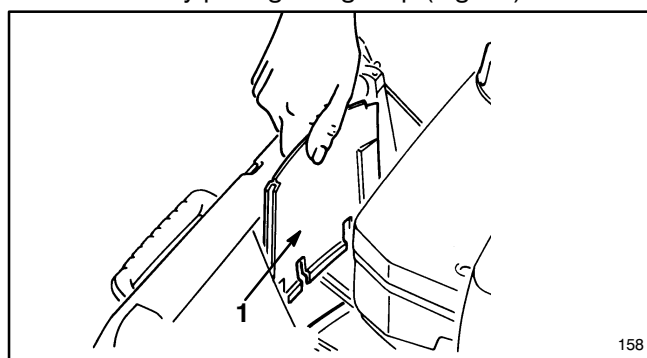

Figure 33
3. Remove the vertical panel in front of the transmission by pulling straight up (Fig. 33).